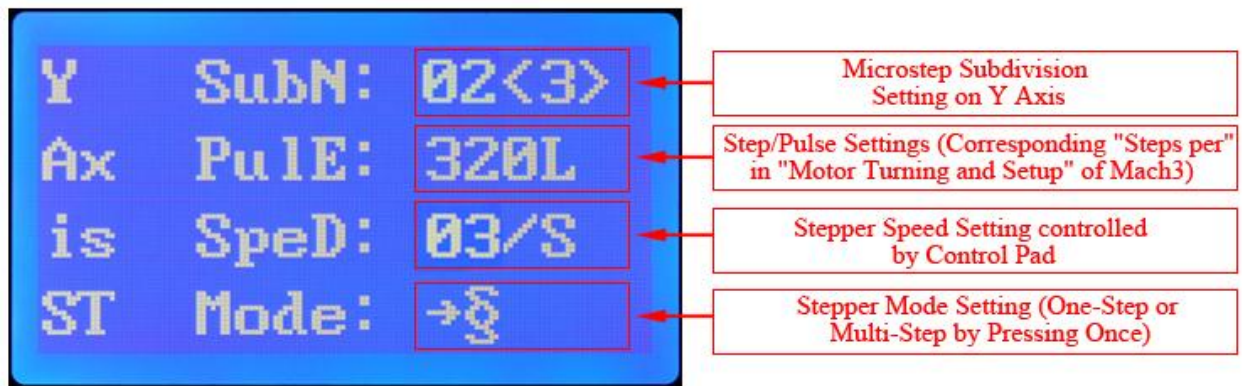

Figure 6: Y Axis Running Parameters Setting
- After finishing “X Axis Running Parameters Setting”, please press the “ST” key on control pad again to skip to the “Y Axis Running Parameters Setting” in “Figure 6”.